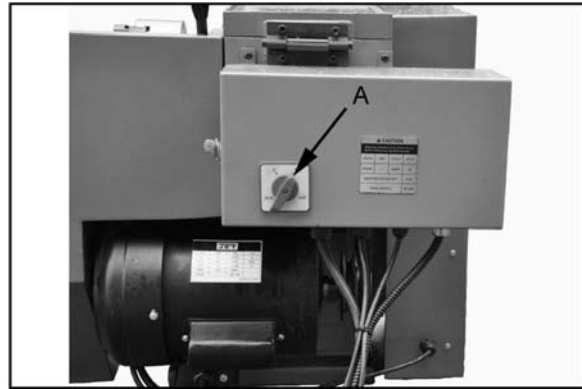

Figure 14
1. **Main On-Off Switch (A, Fig. 14)** – Power is off in the “0” position and on in the “I” position.